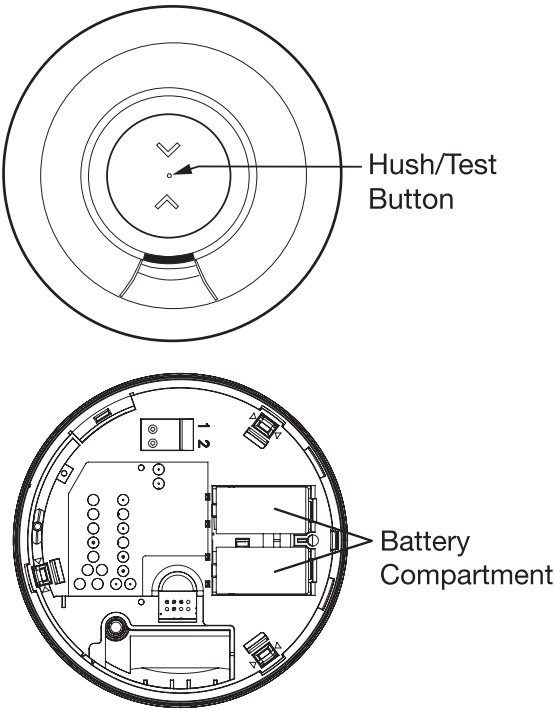

Fig 1. Wireless Smoke Heat Detector
2. Push and hold the test button until the Detector sounds and the red LED flashes (see **Figure 1**). The Detector will stop sounding shortly after the button is released. The alarm panel will trigger and into alarm. The sounder begins the temporal 3 pattern and the red LED blinks. The alarm panel's console should display the Detector's name in alarm.